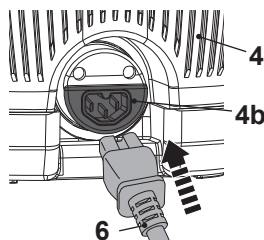

Fig. 9
- > Ensure the water level in the water tank (4) is located between the **MIN** and **MAX** markings.
- > Plug the adaptor of the power cord (6) into the water tank socket (4b) (Fig. 9).